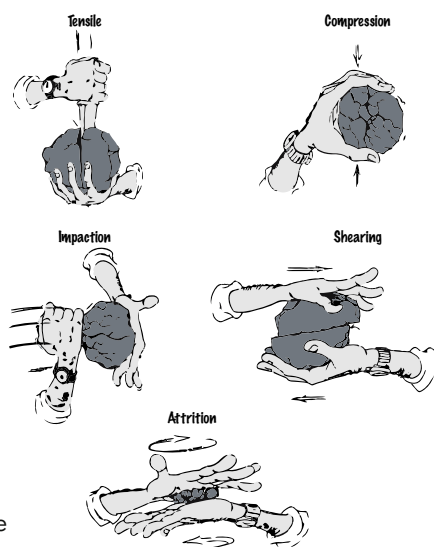

Figure 1
4. Foundation depth ( $C_{min}$ ) should be at least 125 % of the anchor hole depth ( $B_{min}$ ). See Figure 1.
Minerals being crystals can be broken into an endless number of sizes and shapes every time they are introduced to energy. Tensile, compressive, shear and attrition forces can be used to break down the materials as illustrated in Figure 1.